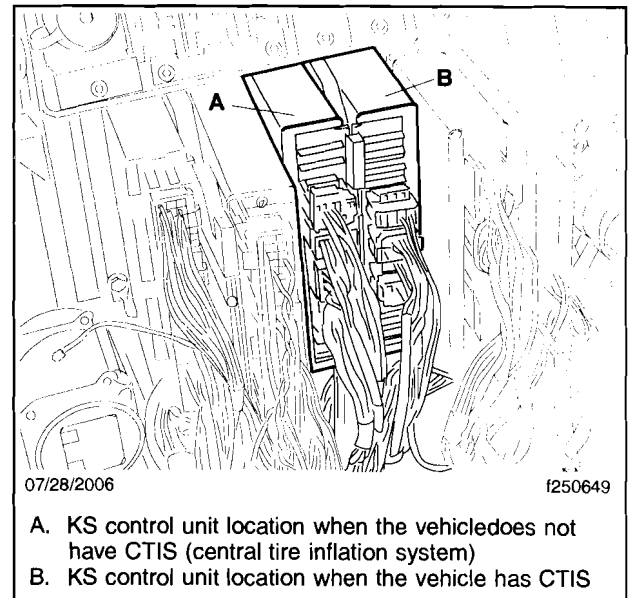

Fig. 18, KS Control Unit Location
2. Unplug and remove the KS control unit from the electrical panel located behind the right-hand seat. See **Fig. 18**.